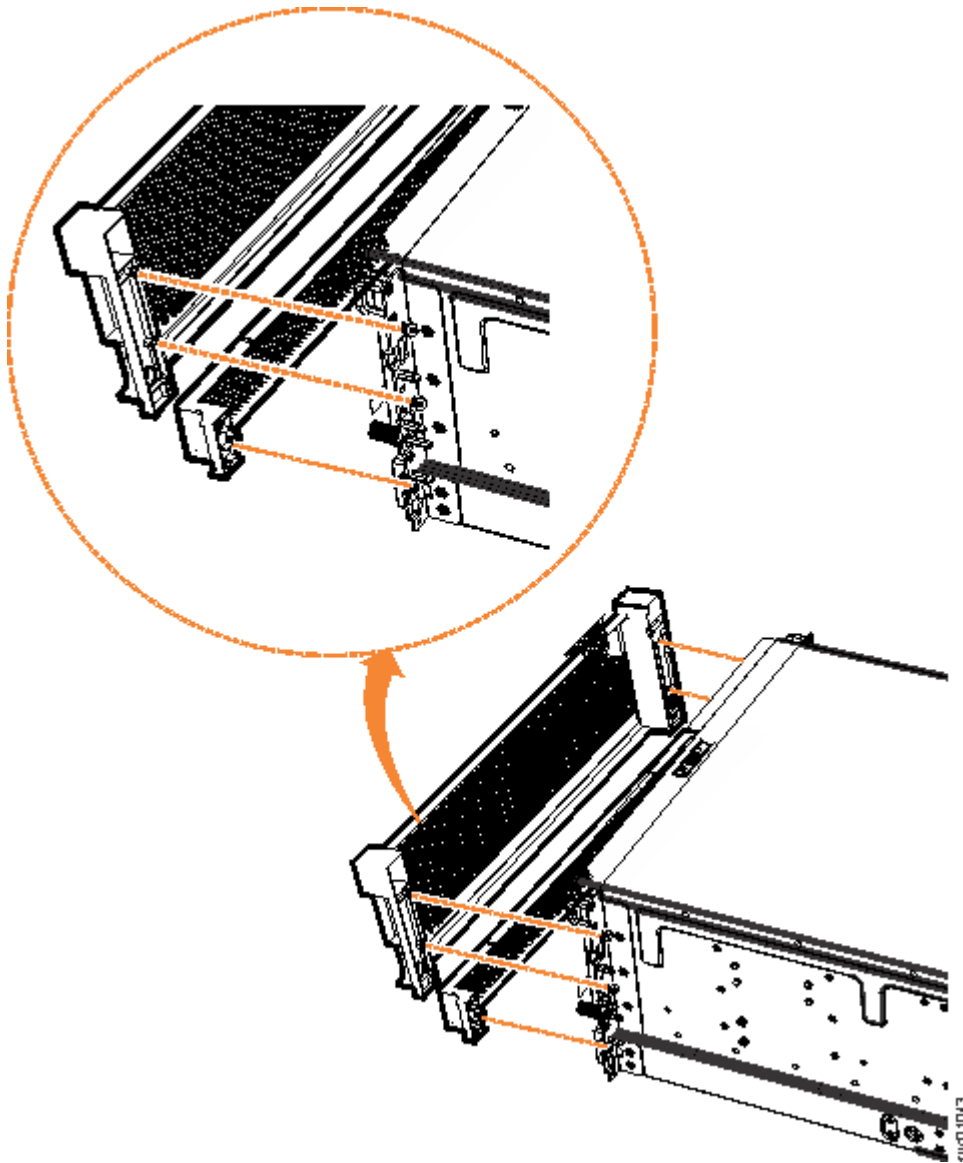

Figure 163. Remove fascia components from the expansion enclosure
2. Remove the front fascia by removing the two screws that attach the fascia to the flange on each side of the chassis, as shown in Figure 163 on page 195.
3. Gently pull on each side of the PSU fascia to remove it from the chassis, as shown in Figure 163 on page 195. The PSU fascia disengages from the slot and pin that connect it to each side of the chassis. You must remove the bottom fascia to access and service either PSU. However, as Figure 164 on page 196 shows, you do not have to remove the front fascia.